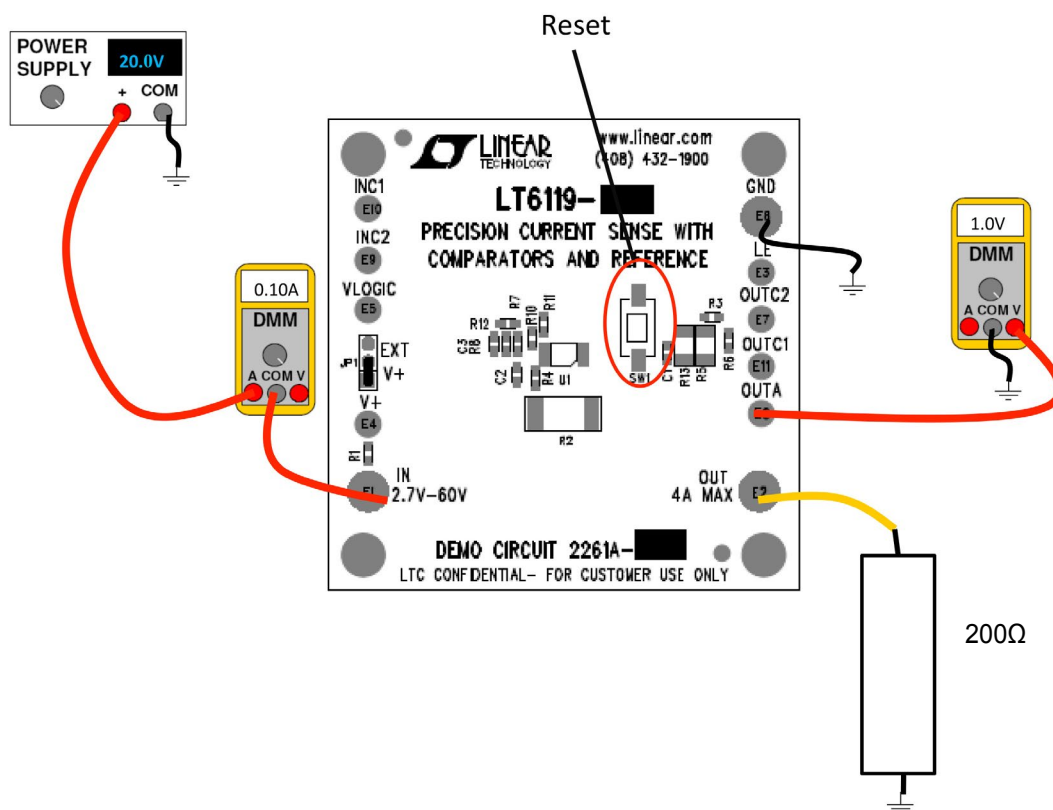

Figure 1. Test Setup
With the demonstration circuit, it is easy to set up and evaluate the performance of the LT6119. Refer to Figure 1 for proper measurement equipment setup and follow the procedure below:
1. With the power off, connect the power supply positive to IN and the common to GND. With default settings the supply can range from 2.7V to 60V. If the supply does not have an accurate current readout, a DMM may be connected in series with the supply as shown in Figure 1.
5. Measure the output voltage and confirm that it corresponds to the load current.  $V_{OUTA} (V) = 10 \cdot I_{LOAD}(A)$  for the factory installed resistors.